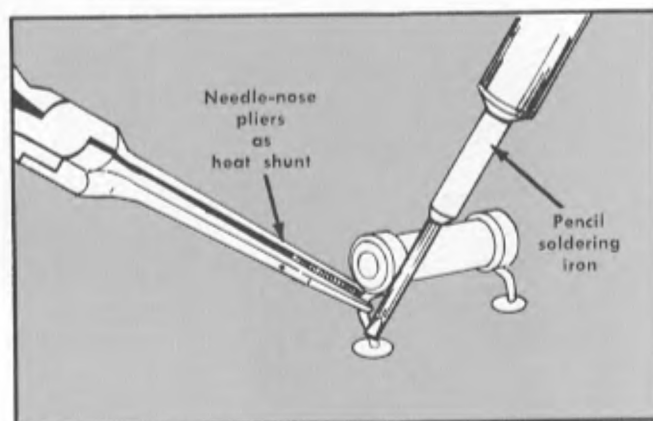

Fig. 6-4. Apply the soldering iron to the heat-shunted lead when removing a component from a circuit card.
**Replacement of other soldered-in components.** Grip the component lead with long-nose pliers. Touch the soldering iron to the lead at the solder connection. Do not lay the iron directly on the board, as it may damage the board. Refer to Fig. 6-4.